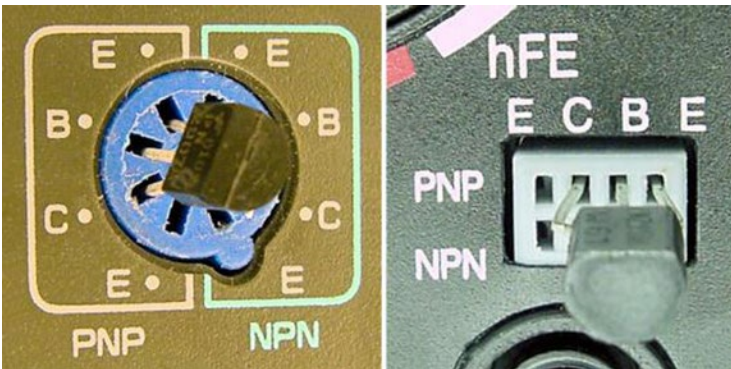

Figure 16-3. Inserting the 2907A into the multimeter transistor test socket (examples from two different sockets found on various meters)
2. For a 2907A transistor, Figure 16-3 shows the correct insertion. All of the transistor leads are inserted on the PNP side of the socket. The emitter connects to 'E,' the base connects to 'B,' and the collector connects to 'C.'